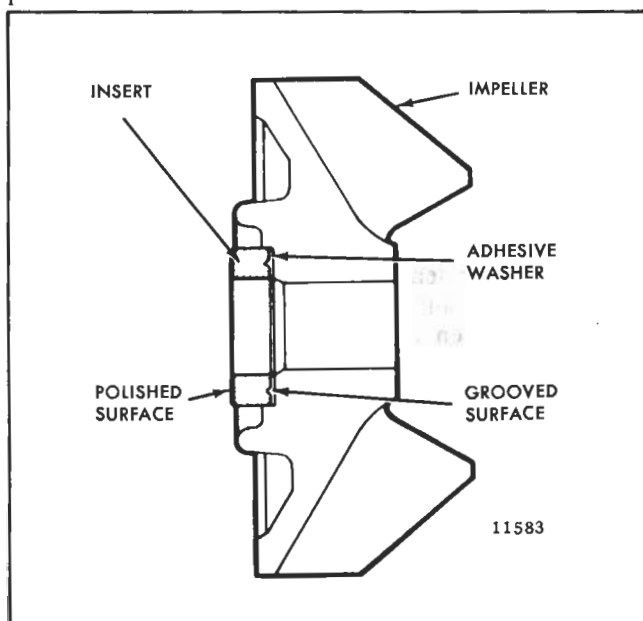

Fig. 2 - Impeller with Ceramic Insert
- c. Place the adhesive washer in the impeller bond area with the ceramic insert on top. The polished face of the ceramic insert should be visible to the assembler (Fig. 2).